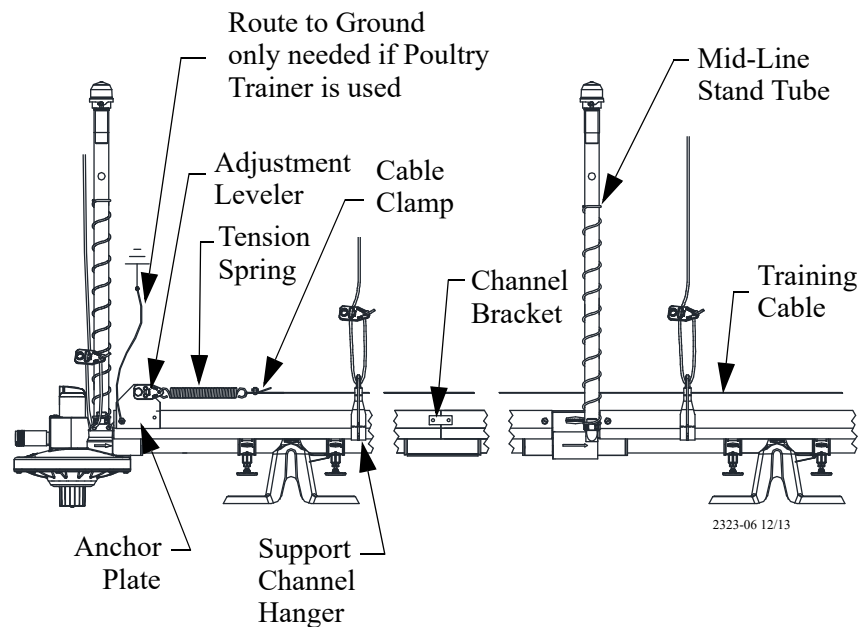

Figure 29. Anti-Roost Components
1. Make certain that an anchor plate with adjustment leveler is installed at the beginning and end of each anti-roost line. **See Figure 29.**
- Note: Make sure that the support channel is attached to a ground (to insure proper operation of the poultry trainer). It will be necessary to install a jumper wire at stand tube, inlet assemblies, etc., to insure the ground circuit **See Figure 29.**